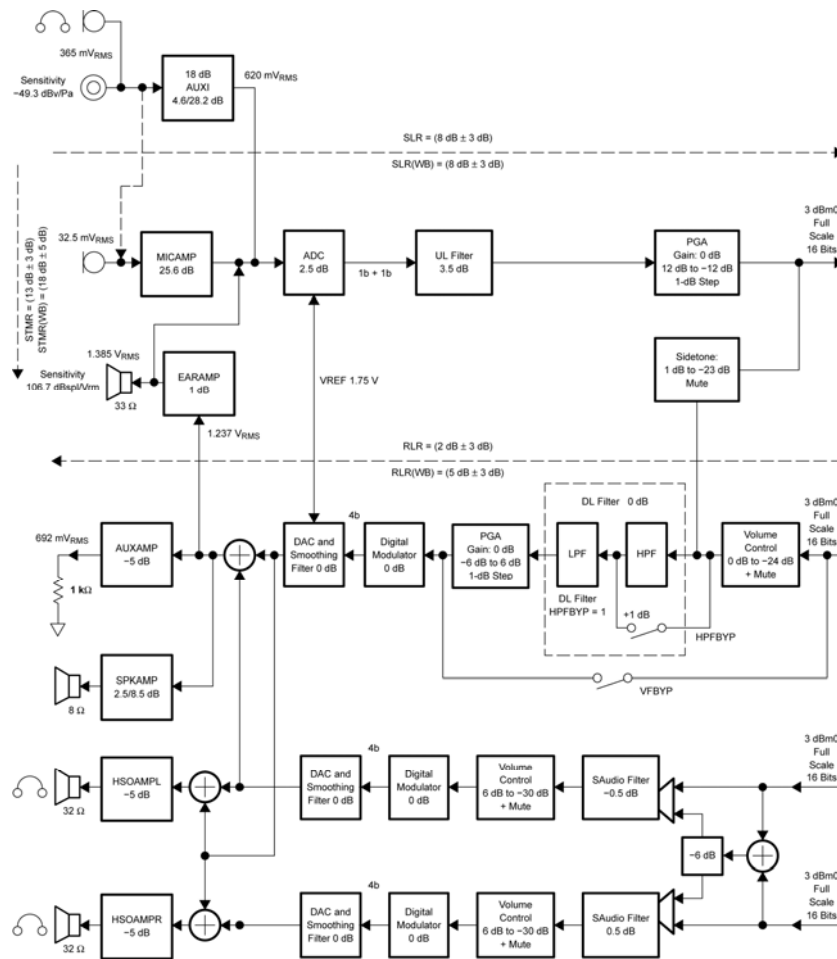

Figure 4: Audio Codec Block Diagram
- Figure 4: Audio Codec Block Diagram9